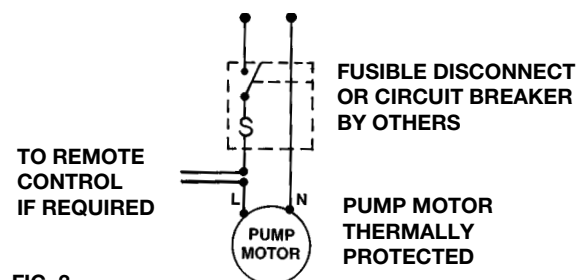

FIG. 3
- Using a minimum size 14 AWG copper electrical wire (refer to your local code for wiring restrictions), wire the motor to a single phase power source as listed on the pump nameplate. See Fig. 3.